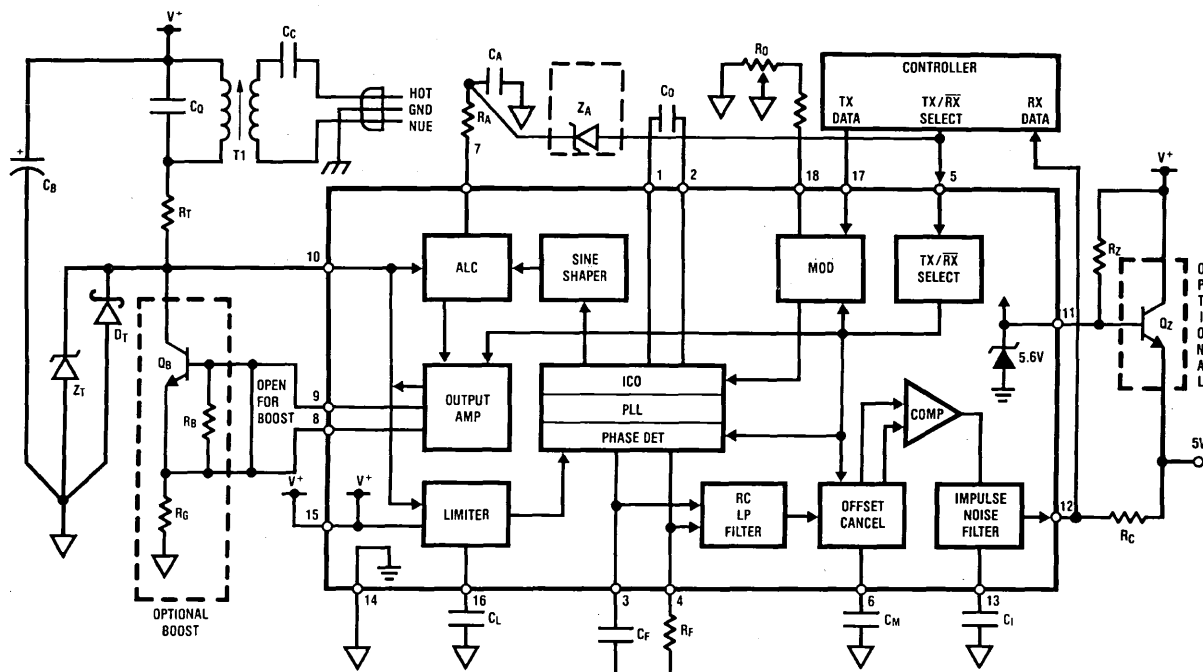

FIGURE 4. Block diagram of a CCT system with the boost and 5V supply options shown in dashed boxes
The BI-LINE™ chip serves as a power line interface in the carrier-current transceiver (CCT) system of Figure 3. Figure 4 shows the interface circuit now discussed. The controller may select either the transmit (TX) or receive (RX) mode. Serial data from the controller is used to generate a FSK-modulated 50 to 300 kHz carrier on the line in the TX mode. In the RX mode line signal passes through the coupling transformer into the PLL-based receiver. The recreated serial bit stream drives the controller.
With the IC in the TX mode (pin 5 a logic high), baseband data to 5 kHz drive the modulator's Data In pin to generate a switched 0.9781/1.0221 control current to drive the low TC, triangle-wave, current-controlled oscillator to ±2.2% deviation. The tri-wave passes through a differential attenuator and sine shaper which deliver a current sinusoid through an automatic level control (ALC) circuit to the gain of 200 current output amplifier. Drive current from the Carrier I/O develops a voltage swing on T₁'s (Figure 4) resonant tank proportional to line impedance, then passes through the step-down transformer and coupling capacitor C_C onto the line. Progressively smaller line impedances cause reduced signal swing, but never clipping—thus avoiding potential radio frequency interference. When large line impedances threaten to allow excessive output swing on pin 10, the ALC shunts current away from the output amplifier, holding the voltage swing constant and within the amp's compliance limit. The amplifier is stable with a load of any magnitude or phase angle.
FIGURE 5. A quick explanation of the external component function using the circuit of Figure 4. Values given are for V⁺ = 18 V, F_O = 125 kHz, f_{DATA} = 360 Baud (180 Hz), using a 115 V 60 Hz power line
Assuming the circuit of Figure 4 is used with something other than the nominal 125 kHz carrier frequency, 180 Hz data rate, 18V supply voltage, etcetera, the component values listed in Figure 5 will need changing. This section will help direct the CCT designer in finding the required component values with emphasis placed on look-up tables and charts. It is assumed that the designer has selected values for carrier center frequency, F_O; data rate, f_{DATA}; supply voltage, V⁺; power line voltage, V_L; and power line frequency, F_L. If one or more of those parameters is not defined, one may read the data sheet and make an educated guess.